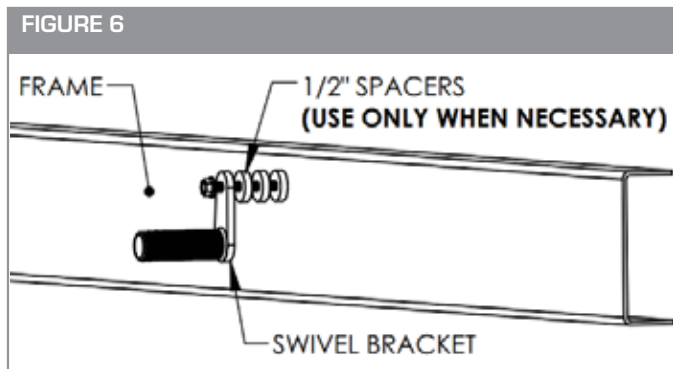

FIGURE 7
- A. Once the brackets are in position with the fender, tighten the 5/8" x 4-1/2" bolt that goes through the (10001472/10001473) swivel bracket to attach the swivel securely to the frame. (See Figure 7)